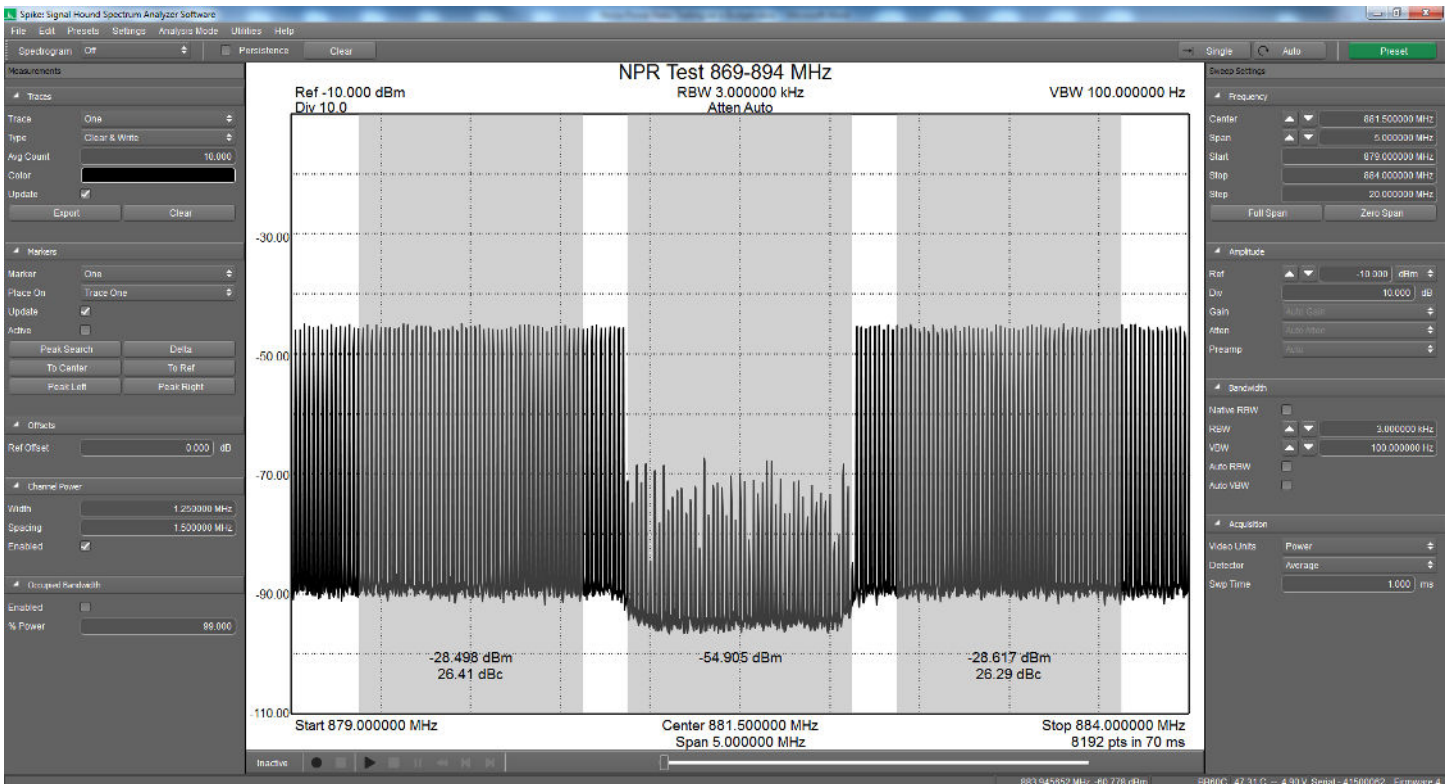

Figure 3: VSG25A 1001-tone, 25 MHz span NPR test of an amplifier. Center 5 MHz shown.
9. Plot results as NPR (dB) vs. input power (see Figure 3 on the next page).